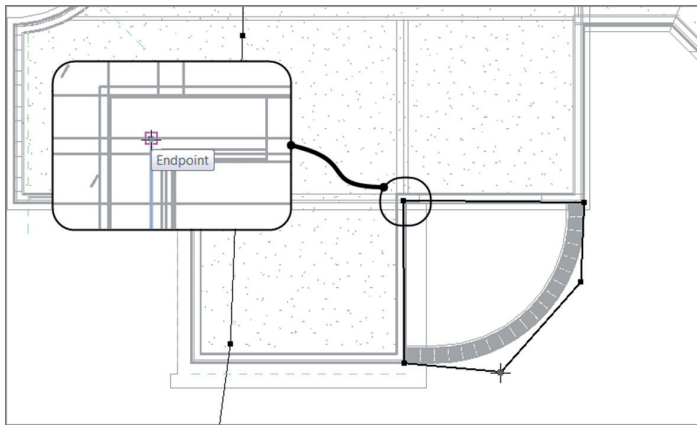

FIGURE BC3.6: Adding the 0 elevation points
3. Zoom in on the west wing area where the slanted curtain wall resides, as shown in Figure BC3.6.
8. Pick five points (see Figure BC3.6).